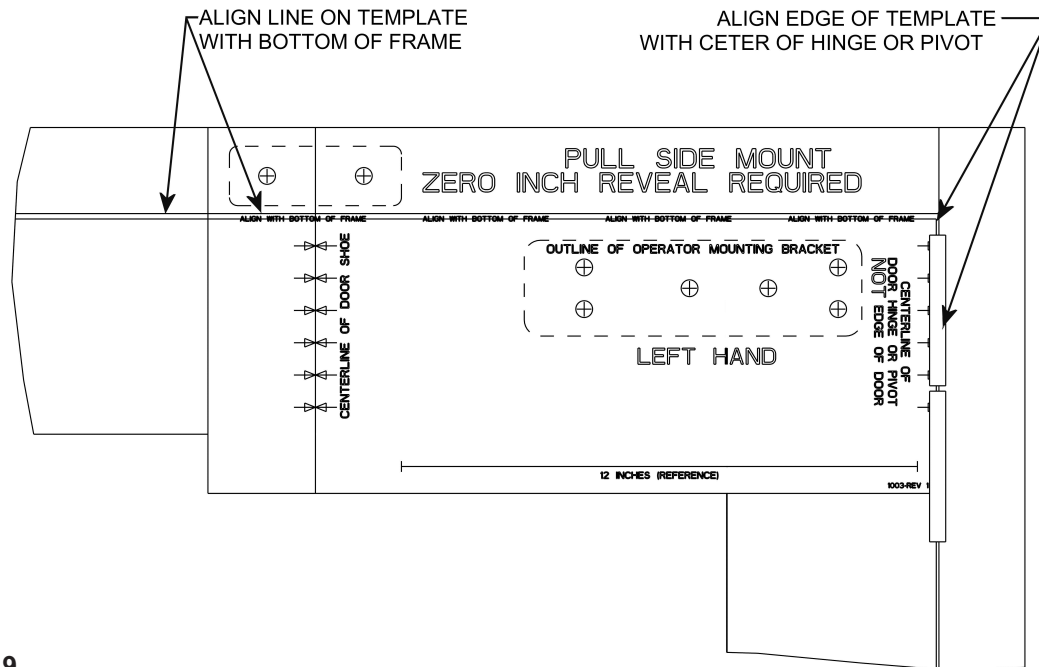

Figure 19
4. Refer to Figure 19, and ALIGN the operator mounting template to the centerline of the butt hinge, center pivot, or offset pivot as applicable.